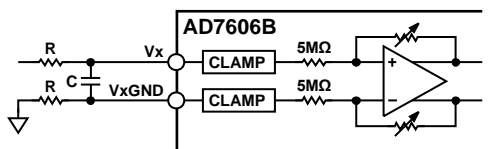

Figure 45. Input Resistance Matching on the Analog Input of the AD7606B
It is recommended to place a series resistor on the analog input channels to limit the current to  $\pm 10$  mA for input voltages greater than  $\pm 21$  V. In an application where there is a series resistance (R) on an analog input channel, Vx, it is recommended to match the resistance (R) with the resistance on VxGND to eliminate any offset introduced to the system, as shown in Figure 45. However, in software mode, there is a per channel system offset calibration that removes the offset of the full system (see the System Offset Calibration section).